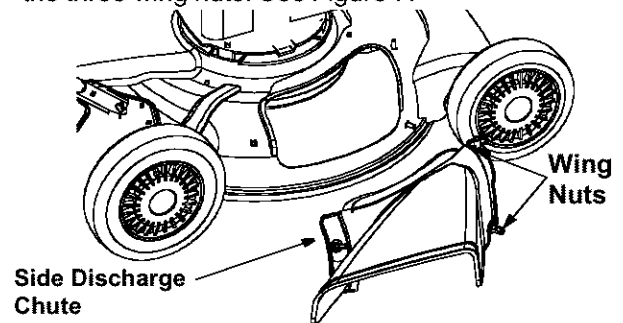

Figure 7
- Attach side discharge chute to unit and secure with the three wing nuts. See Figure 7.